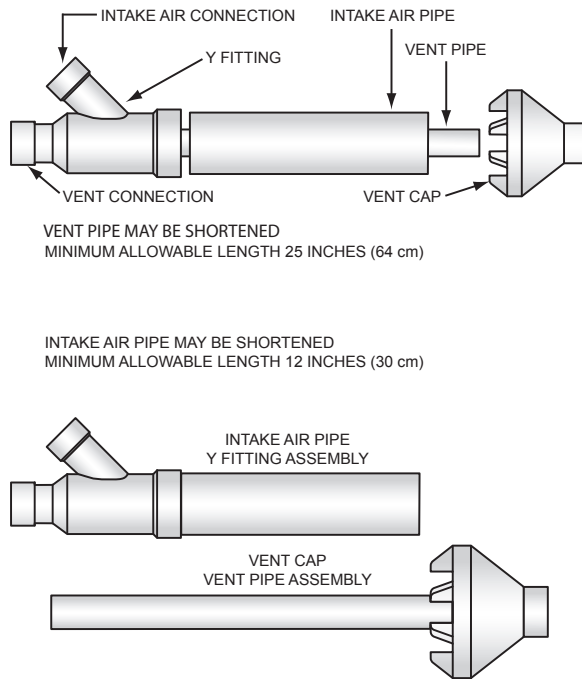
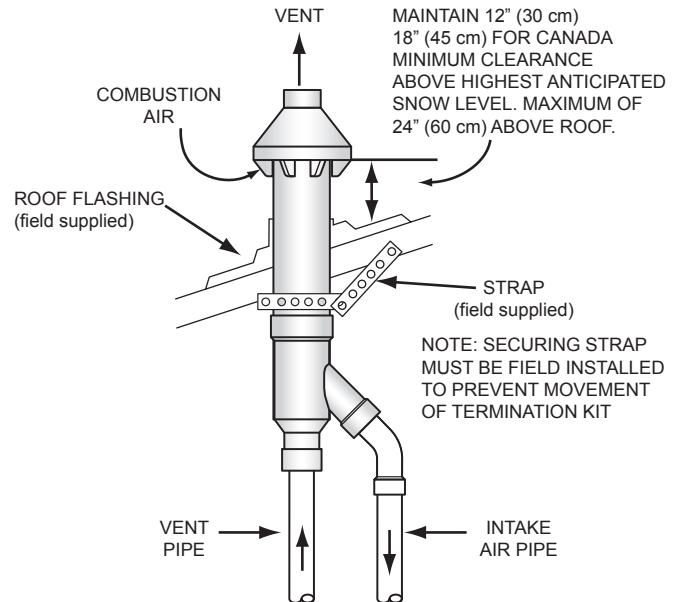
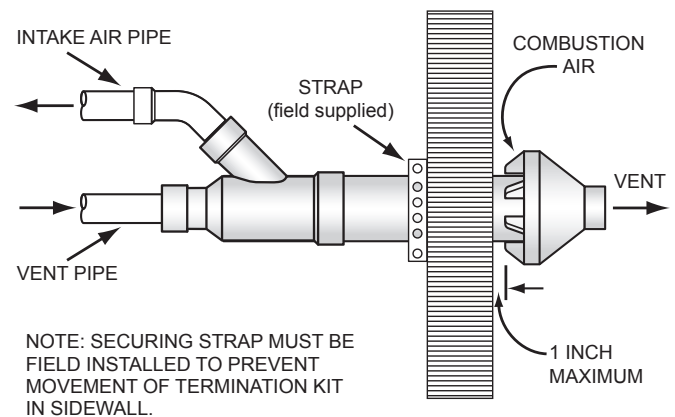

Figure 31. Concentric Termination Kit
Figure 32. Concentric Termination - Vertical Installation
Figure 33. Concentric Termination - Side-Wall Installation
- When installing a concentric termination vertically through the roof; ensure that all exterior vertical clearance requirements for the concentric termination, shown in **Figure 32** (page 29), are being maintained. These clearances and those cited by local and national codes must be maintained.
- See **Figure 31** (page 29) for the minimum lengths allowed for the concentric termination.
Assemble and install the four-inch concentric termination. Refer to **Figure 31**, **Figure 32**, and **Figure 33** for these instructions: